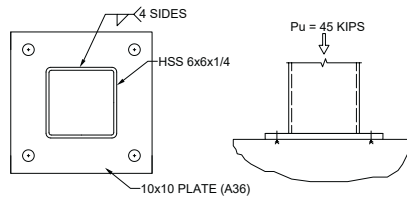

Figure 1
- 5 Calculate minimum plate thickness for the base plate connection in Figure 1, based on the limit state of plate yielding. Use the load and resistance factor design (LRFD) method.
- 5 Using the analysis procedure detailed in Section 3.1 for concentric compressive axial loads and the dimensions provided in Figure 1, a minimum base plate thickness is calculated.  $F_y = 36$  ksi,  $d = 6$  in.,  $B = 10$  in.,  $N = 10$  in.,  $n = m = 0.95 \times d = 0.95 \times 6$  in. = 5.7 in., therefore  $l = 5.7$  in.,  $P_u = 45$  kips. Note that for rectangular HSS, both  $m$  and  $n$  are calculated using yield lines at 0.95 times the depth and width of the HSS.  $\phi = 0.9$  using the LRFD equation on page 16: